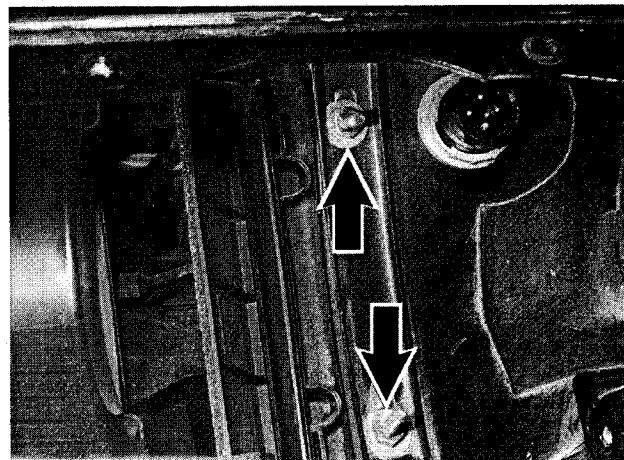

Fig. 10. Heater core mounting nuts at left side of bulkhead (arrow). Wiper assembly shown removed for clarity.
5. Remove nuts from heater box retaining bracket on engine bulkhead left side. See Fig. 10. Repeat procedure for right side nuts.